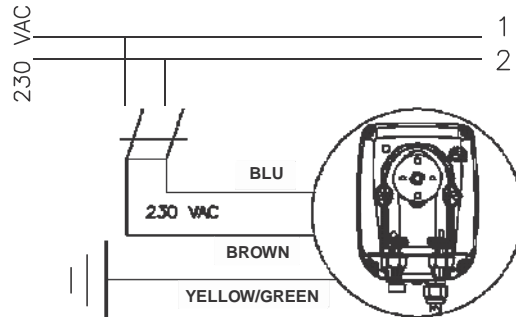

Fig. 4
- b. - Carefully observe the regulations in force in the various countries as regards electrical installations (Fig.4).